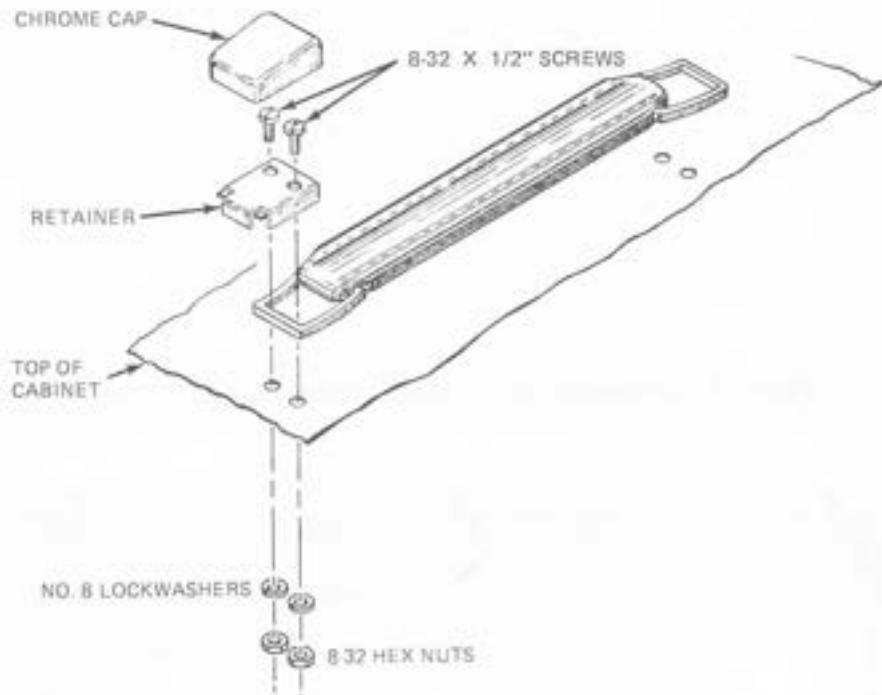

Figure 46. Installing the handle.
(5) Refer to Fig.46 and attach the handle assembly to the top panel and to the chassis with four 8-32 x 1/2" machine screws, four No.8 lockwashers, and four 8-32 hex nuts. After all four screws are in place, tighten them and the two screws installed in the previous step. Finally snap the two chrome covers into place over the handle brackets ()
(6) Now take the top cabinet half and place it over the top of the oscilloscope, aligning the holes with the holes in the black trim strips. Secure it to the lower cabinet assembly with six 8-32 black Phillips-head screws ()
(7) Tighten all six of the black Phillips-head screws ()